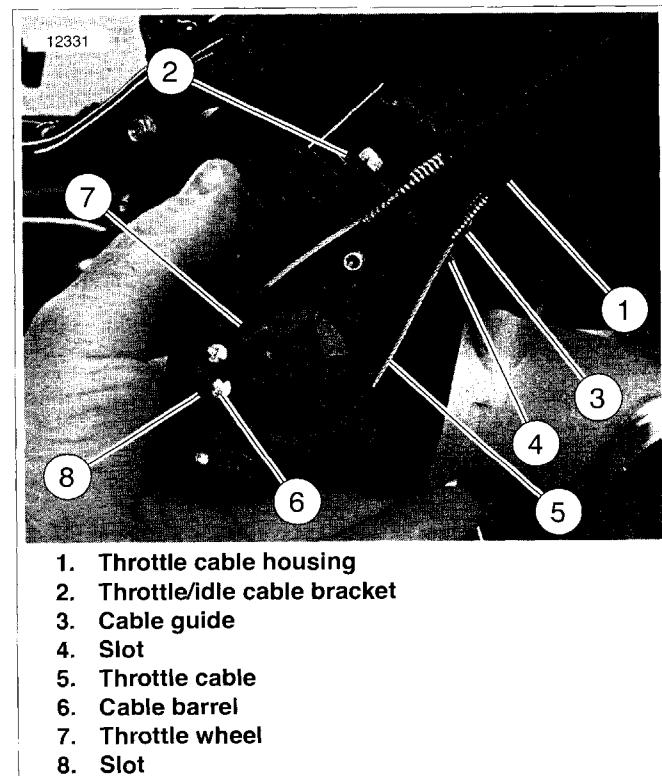

**Figure 4-41. Intake Manifold Mounting Screws: Right Side**
14. See Figure 4-41. Remove two screws (3) securing intake manifold to heads on right side of vehicle.
15. Pull mounting flanges (4) away from heads as much as possible and pull induction module and intake manifold assembly toward the right side, away from vehicle.
- See Figure 4-41. Holding induction module/intake manifold assembly in place, install two mounting screws (3) into remaining mounting flange holes. Tighten all four screws finger-tight.